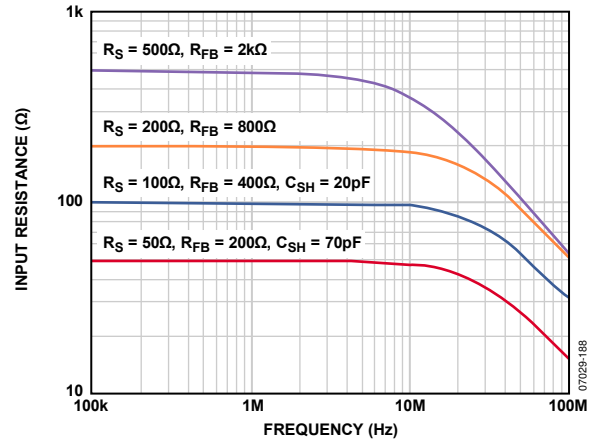

Figure 39. R_{IN} vs. Frequency for Various Values of R_{FB} (Effects of R_S and C_{SH} Are Also Shown)
The bandwidth (BW) of the LNA is greater than 100 MHz. Ultimately, the BW of the LNA limits the accuracy of the synthesized R_{IN} . For $R_{IN} = R_S$ up to about 200 Ω, the best match is between 100 kHz and 10 MHz, where the lower frequency limit is determined by the size of the ac-coupling capacitors, and the upper limit is determined by the LNA BW. Furthermore, the input capacitance and R_S limit the BW at higher frequencies. Figure 39 shows R_{IN} vs. frequency for various values of R_{FB} .